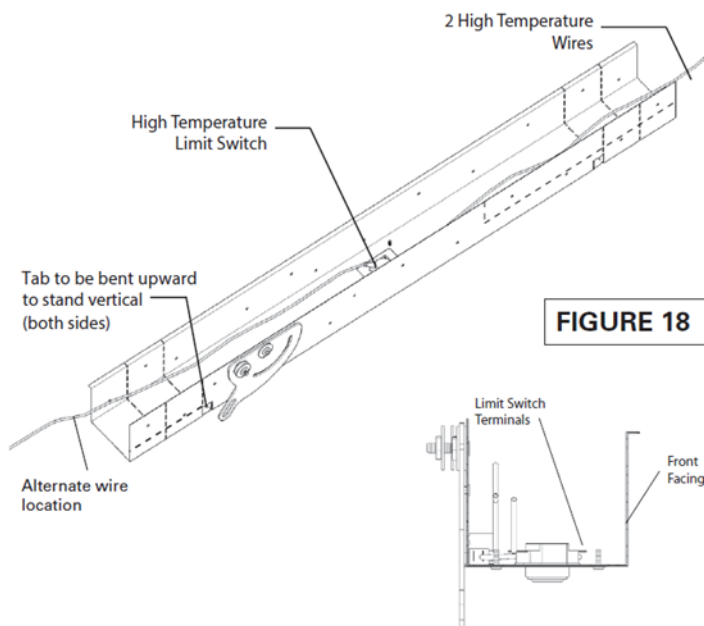

FIGURE 18
9. The high temp lintel (Figure 18), as supplied, is forty-five inches (45") long and fits the BVETTO models 36 & 46. Field cut the high temp lintel equally at the perforated lines as required for the 36" unit. This will ensure the limit switch and micro-switch are in the proper position on the lintel.